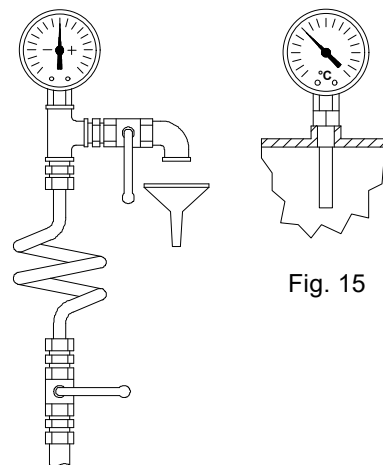

Fig. 15
- b) Temperature gauges should be installed with thermowells selected for the specific purpose and fitted in strategic locations where the reading is required (see fig. 15).